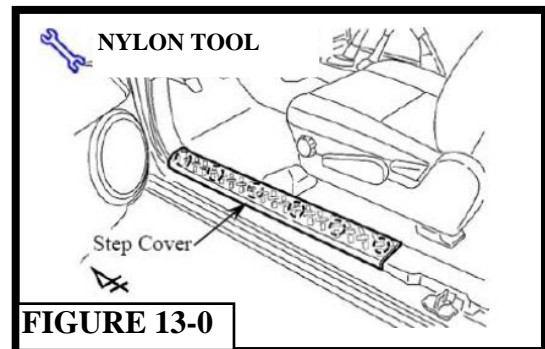

FIGURE 13-0
- (a). Remove the driver side step cover. (FIGURE 13-0)